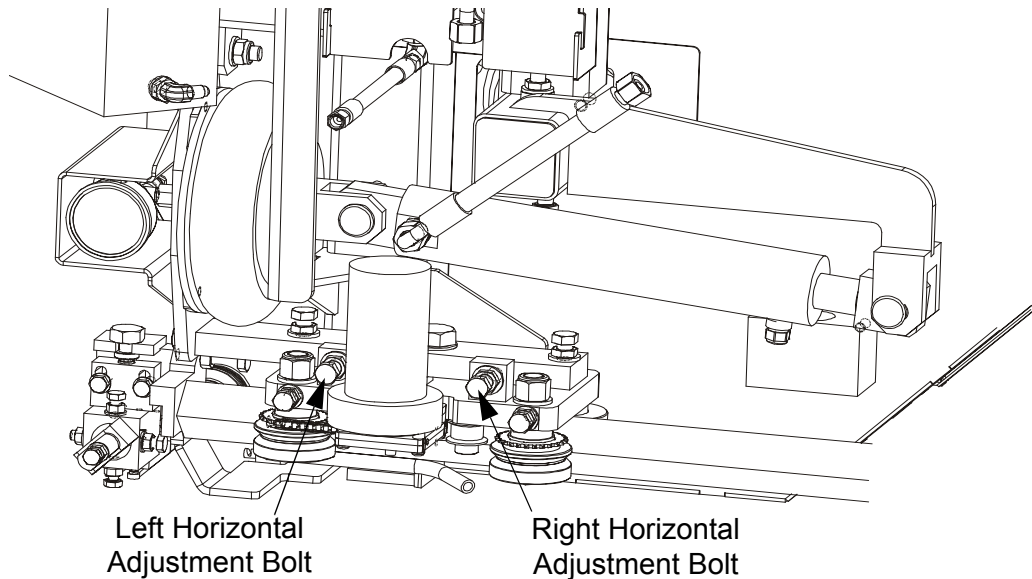

FIG. 7-5
**See Figure 7-5.** Loosen the horizontal adjustment bolt jam nuts. To tilt the arm in toward the blade, loosen the right bolt and tighten the left bolt. To tilt the arm out away from the blade, loosen the left bolt and tighten the right bolt. Retighten the jam nuts and recheck the blade guide arm horizontal tilt.